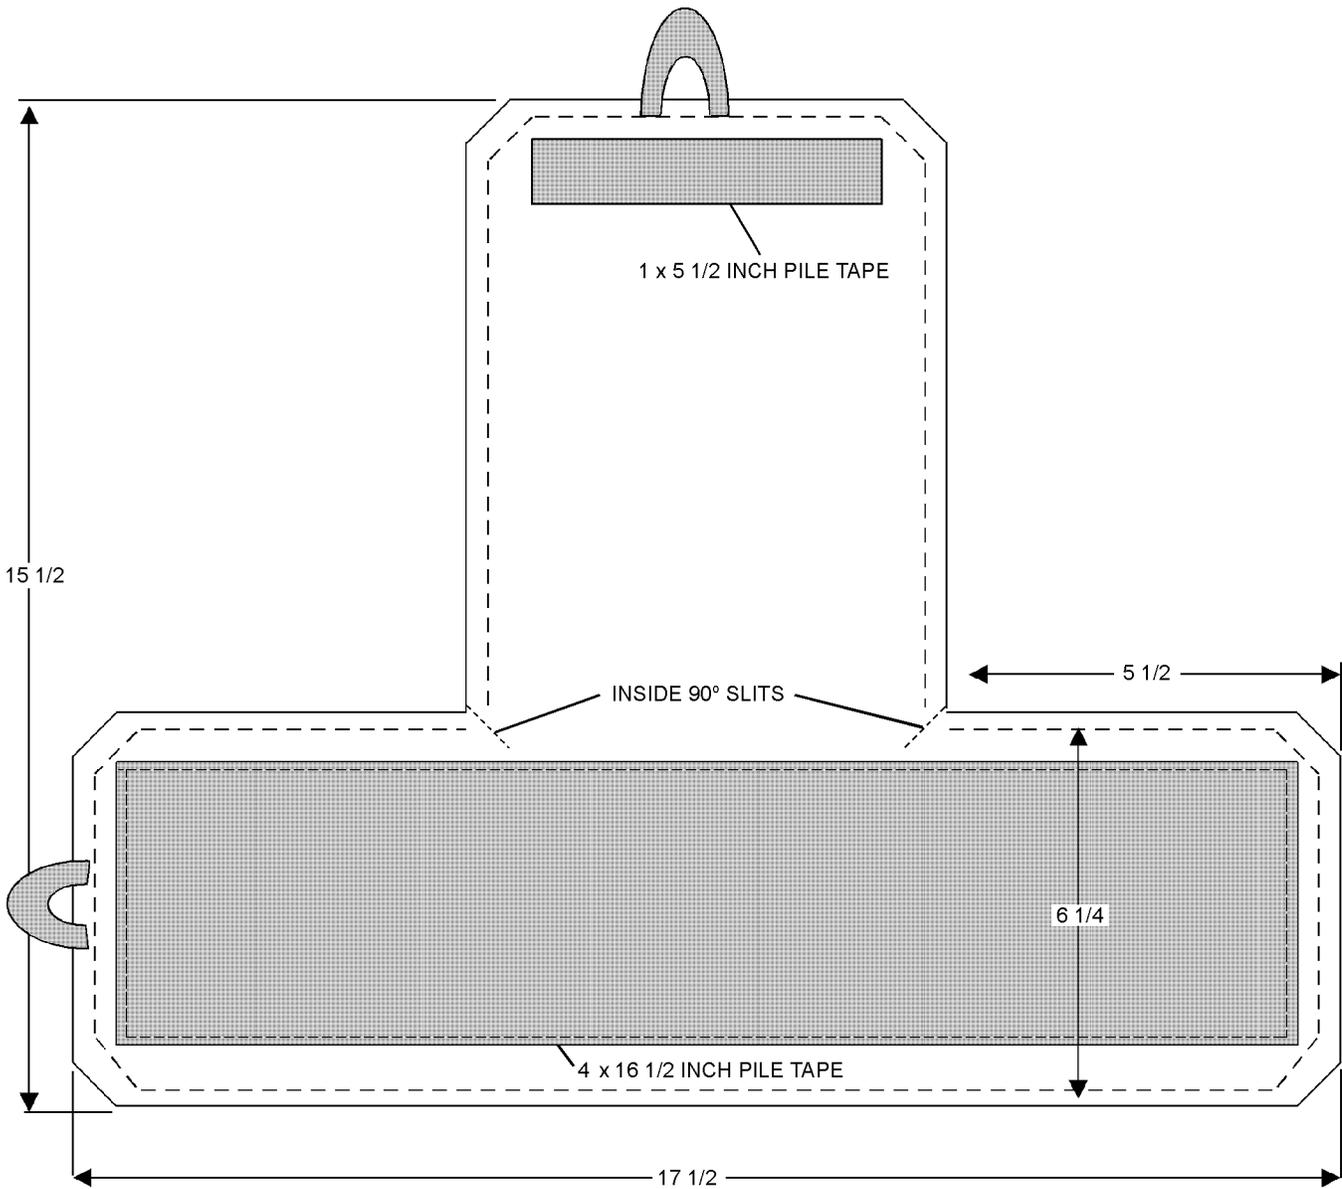

Figure 9-21. Fabrication of SRU-31A/P Equipment Container (Inside of Container)
9-156. Individual Aircrewmember's Survival Kit SRU-31A/P (figure 9-21 and 9-22) contains selected survival items necessary to enhance the survival of downed aircrew personnel. The selection of the SRU-31A/P Individual Aircrewmember's Survival Kit will be at the discretion of the Type Commander depending on mission requirements.
9-169. FABRICATION OF SRU-31A/P EQUIPMENT CONTAINER. (Figure 9-21 and 9-22). To fabricate the equipment container for the SRU-31A/P Individual Survival Kit, proceed as follows:
4. Cut fabric on these lines, forming an upside down "T" shaped piece of material (figure 9-21). Trim each outside 90 degree corner 3/8 inch to form an angled corner. Cut a 3/8-inch slit at the two inside 90-degree angles. Turn all edges inboard 3/8 inches and sew in place using 1 row of stitches 1/4 inch from folded edge.